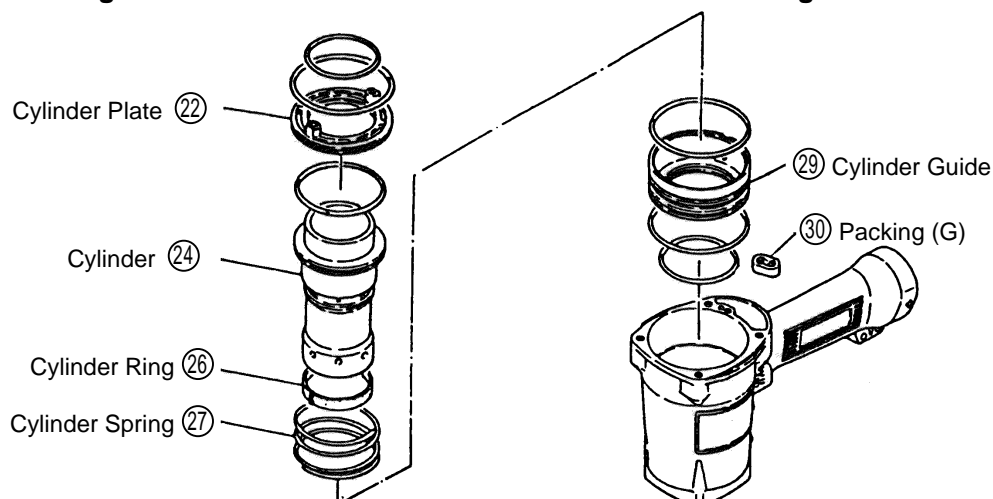

Fig. 10
- Gripping these two bolts, simultaneously turn and pull upward to remove the Cylinder Plate (22). When this has been accomplished, the Cylinder (24) and other parts which make up the Output Section can be removed, as illustrated in Fig. 10.
- If it is difficult to remove the Cylinder (24), remove the Tail Cover (39) by referring Para. 1-1- (1) procedures, and push the Cylinder (24) out from the lower part of the main body.